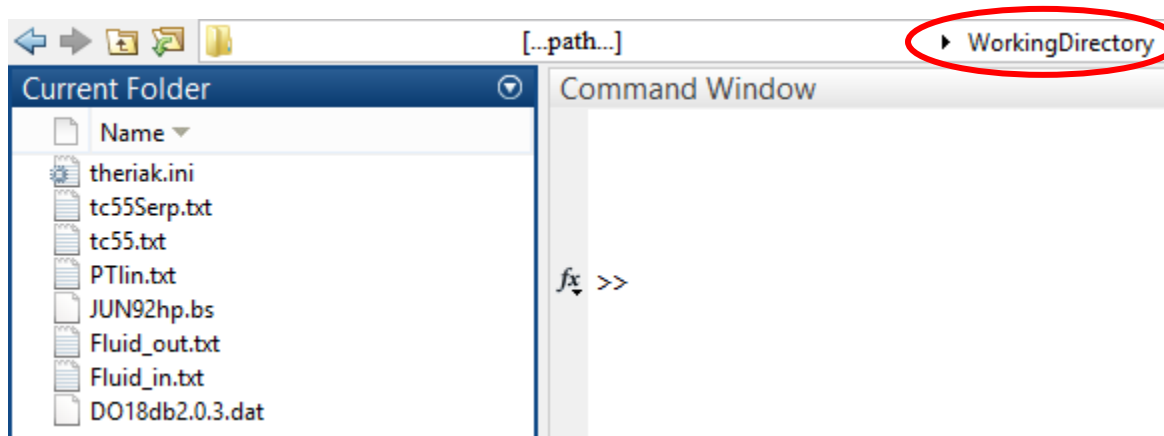

Figure 7.
2. Navigate with MATLAB to your WorkingDirectory (Fig. 7). This folder contains the following files: